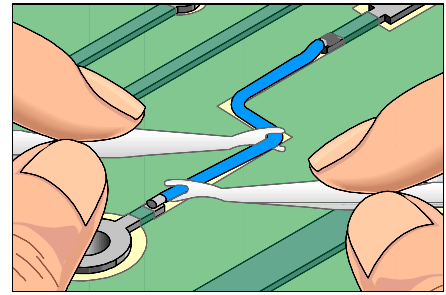

Figure 4: Form the final shape of the wire and solder in place.
14. Lap solder the other wire end to the remaining circuit on the PC board surface using solder and a soldering iron. Make sure the wire is properly aligned. (See Figure 4).